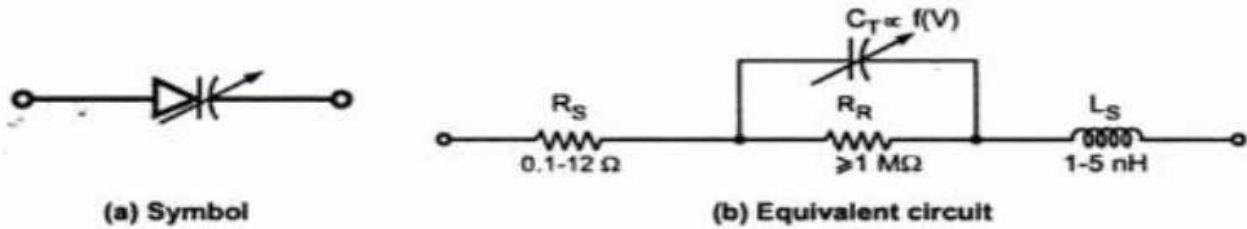

Fig. 5.23 Varactor diode
- The Fig. 5.23 (a) shows the symbol of Varactor diode while the Fig. 5.23 (b) shows the first approximation for its equivalent circuit in the reverse bias region.